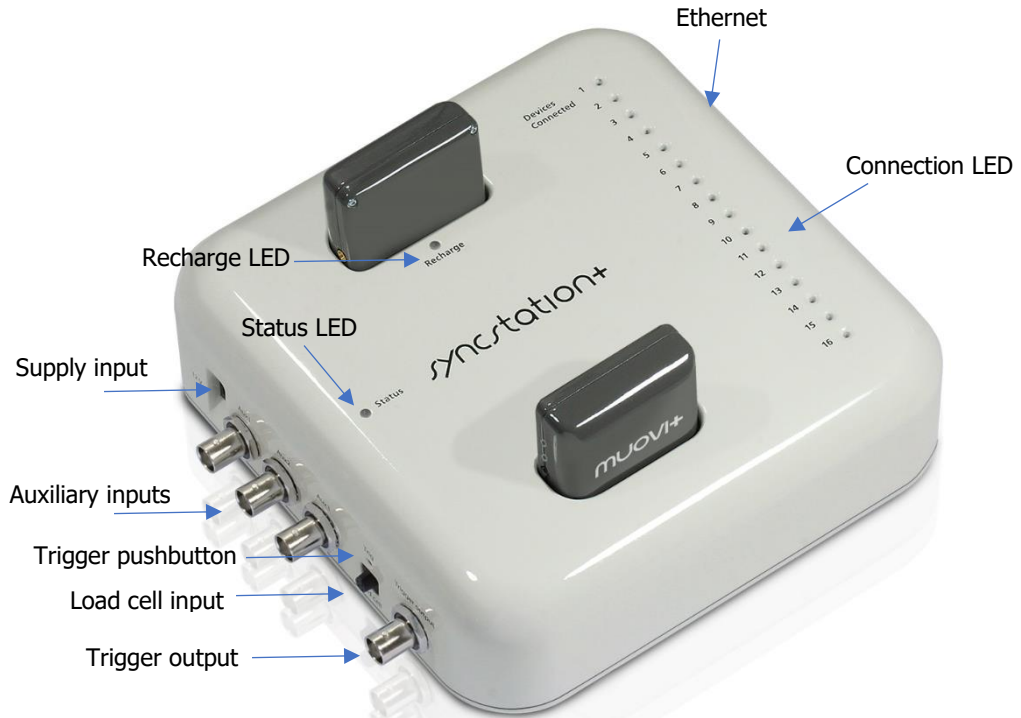

FIG. 7.2: SyncStation+ controls, connectors and indicators.
The Muovi+Pro system is equipped with a recharging and synchronisation base called SyncStation+, shown in Figure 7.2, which is capable of recharging up to 2 Muovi+ probes simultaneously. Next to the housing dedicated to each Muovi+ probe, on the SyncStation+, there is an LED (see Fig. 7.2) that indicates the charging status of the respective probe. The SyncStation+ base, as well as being the charging platform for the individual probes, also performs the following functions:
- Trigger signal generation, by pressing the related button (see Fig. 7.2)
- Trigger output through BNC-OUT (see Fig. 7.2)
The controls, indicators, and connectors on the SyncStation+ base are shown in Figure 7.2 and are described below.
On the SyncStation+ there are (with reference to Fig. 7.2): 6 connectors located on the left side, 1 connector located on the right side and 4 connectors located on the upper side: